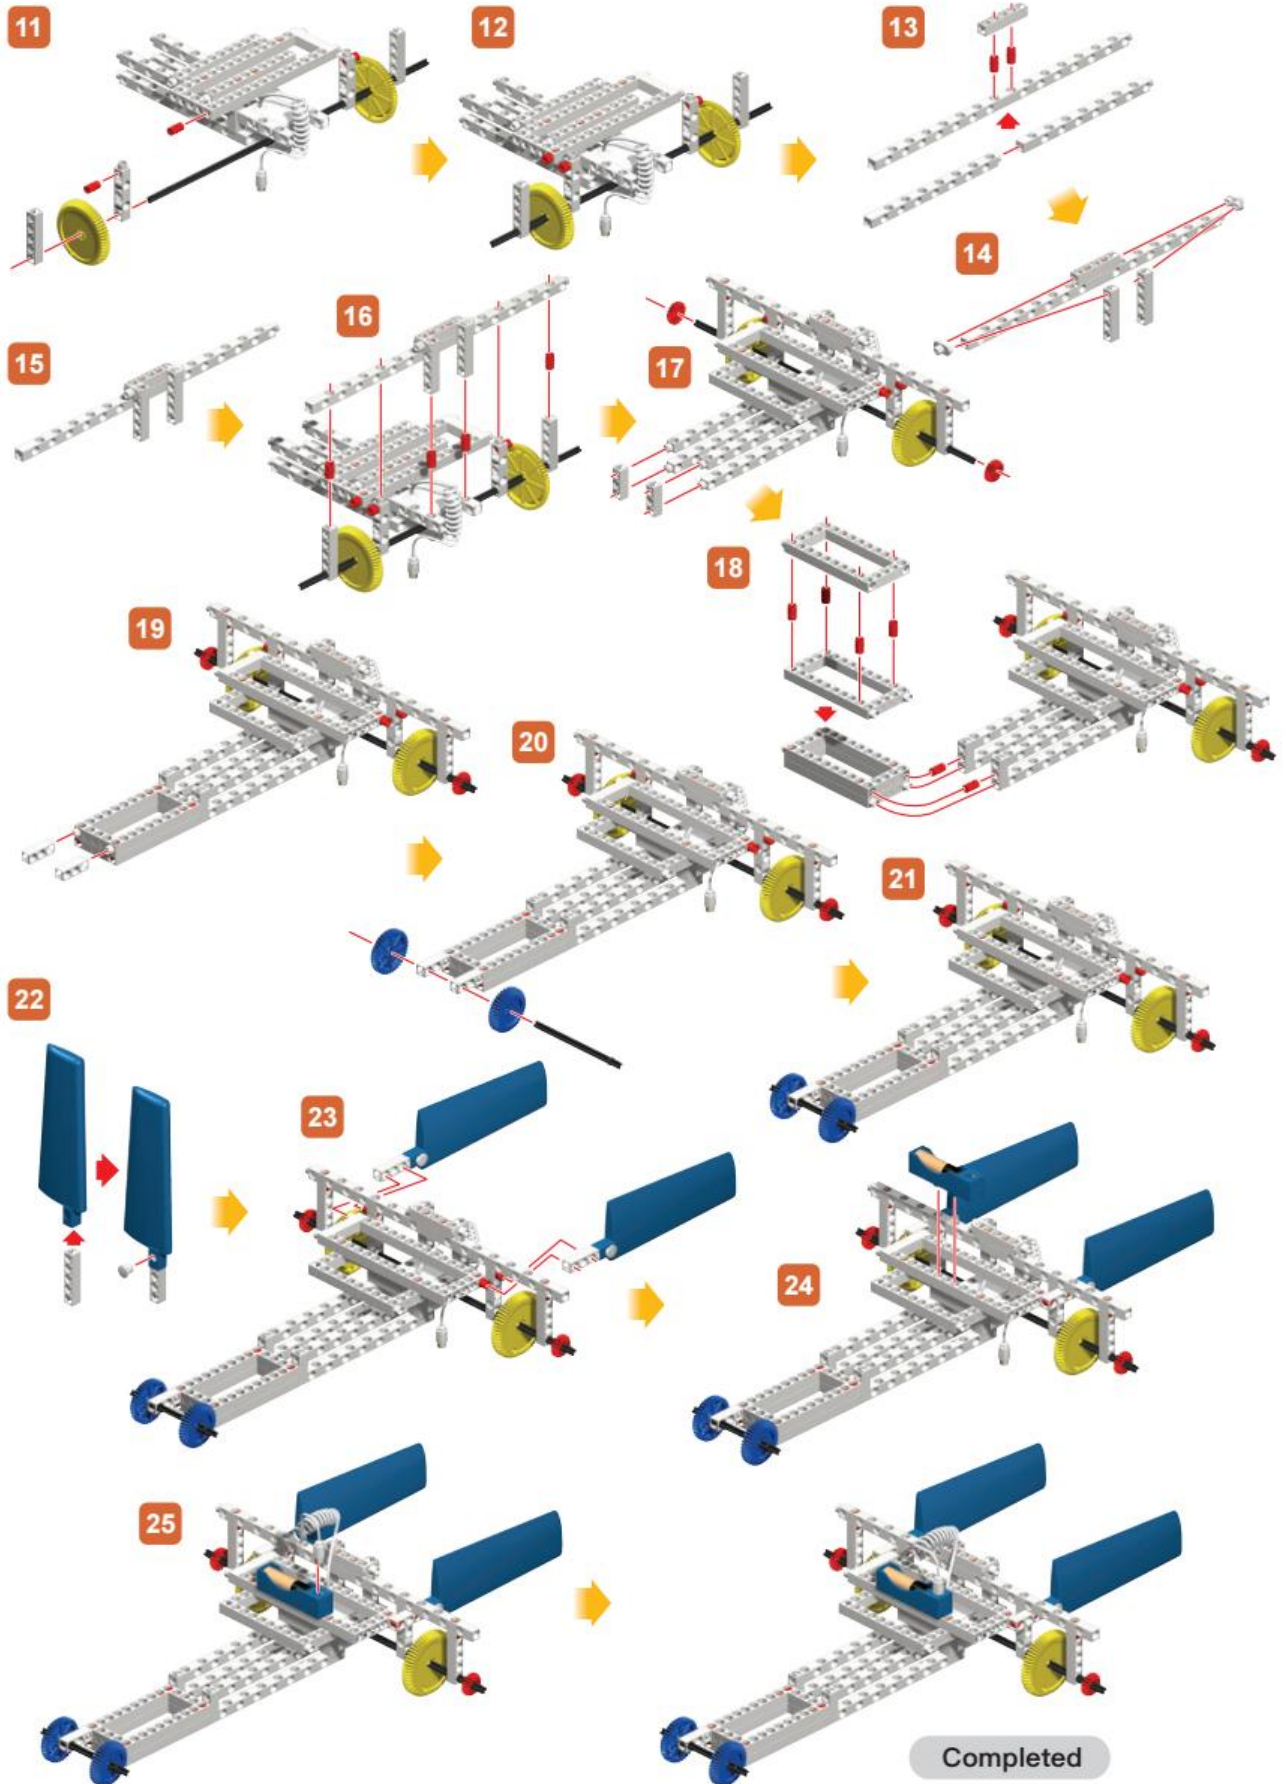

**Fig. 64**
2. Match the positive pole of the battery to the positive pole of the blue battery holder, and so does the negative pole and then insert the battery as Fig.64 shows.